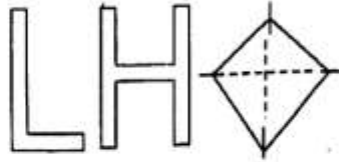

Fig 1
Q.6 Draw the typical shape of shear stress distribution for the following sections shown in Fig. 1: